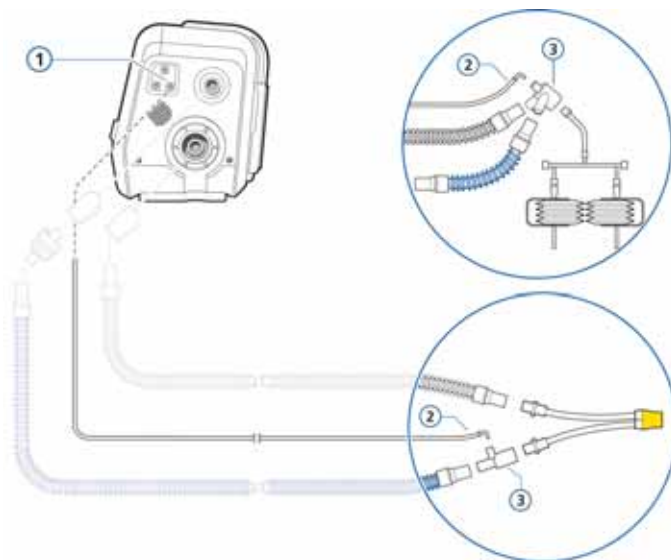

Figure 6-8. Connecting the pressure line
1. Using an adapter, connect the pressure line to the small inlet at the top of the T- or Y-piece, whichever is used. See Figure 6-8.